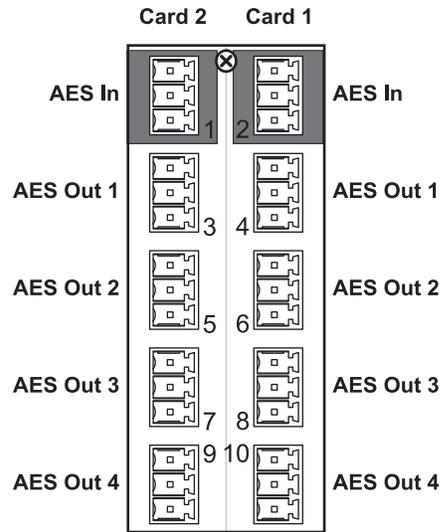

Figure 11 Cabling for the 8320AR-043A
- 8320AR-043A — Each rear module occupies two slots and accommodates two cards. This rear module provides one AES input and four outputs per card. (**Figure 11**)